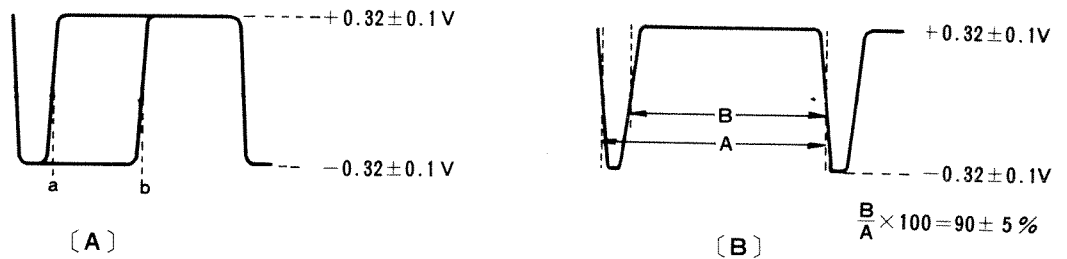

Fig. 9
- d) Set PSW (PVR14) at "10" and PW (PVR13) at "90%". Then adjust VR12 so that the signal rises to $95 \pm 3\%$ at point "a" in Fig. 9-A. Detect the waveform given in (B) when PWM (PVR14) is set at "0".